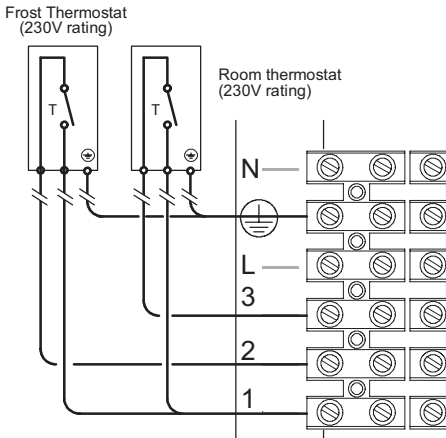
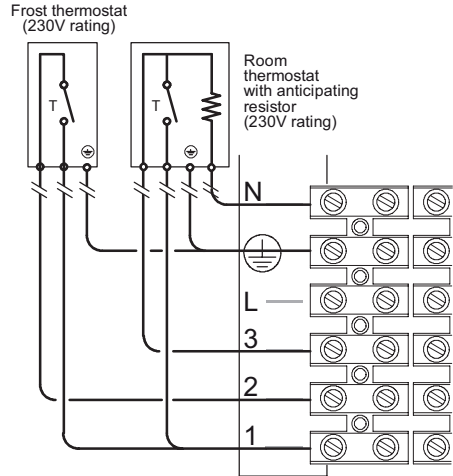

Fig. 6.25
Fig. 6.26
- Connect the frost thermostat between terminals 1 and 2 as shown in Fig. 6.25, Fig. 6.26 or Fig. 6.26.